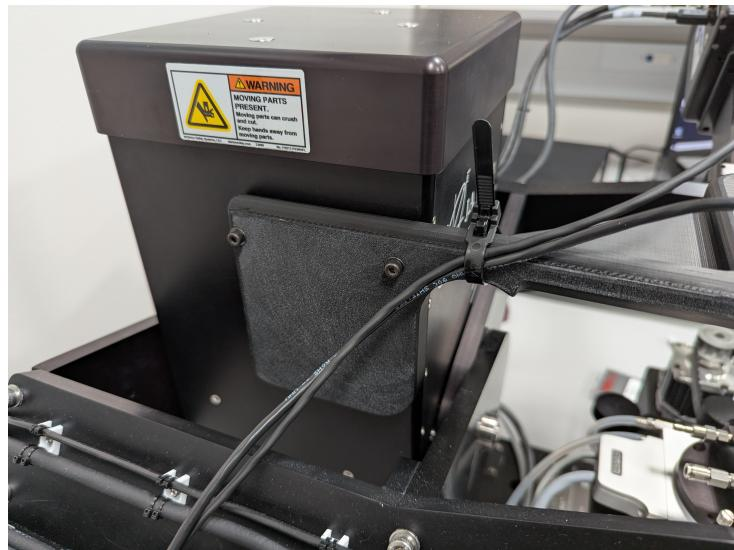

Figure 4: Top Mount Placement
4. Secure the 3D-printed top mount to the left side of the ellipsometer tower using two M4 screws, as seen in Figure 4.